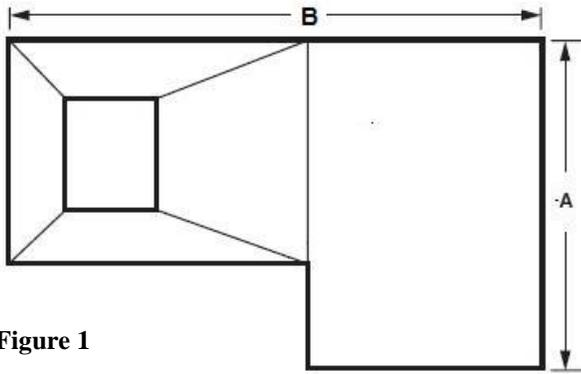
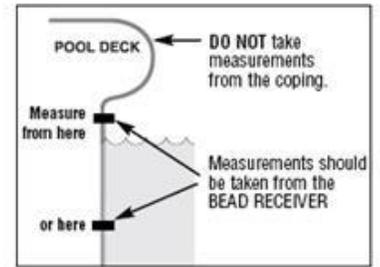

Figure 1
Figure 2
Referring to the illustration of your True-L pool (Figure 1), be sure that the width (A) and the length (B) measurements are made at the bead receiver (where the liner snaps into the track), not at the edge of the coping (the edge of the pool deck). For True-L pools, the width includes the "L" section. (see Figure 2)